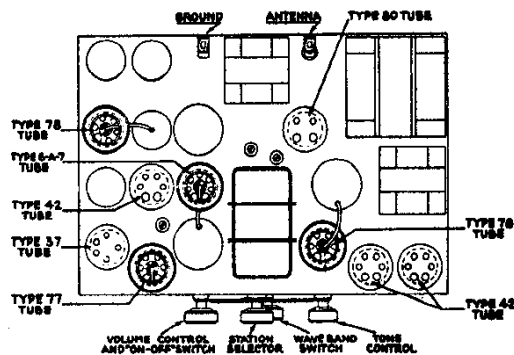

Fig. 1—Top View of Chassis
The intermediate frequency compensating condensers should be adjusted first. The intermediate frequency is 175 kilocycles. The location of these compensating condensers is: (a) 1st, I. F. PRIMARY—(28)—underneath the chassis. May be reached through hole in chassis sub-base to rear, left, of Tuning Condenser Assembly (9). See Figure 1. (b) 1st, I. F. SECONDARY—(29)—at rear of chassis, and accessible therefrom. Mounted near (28) and (30) electrolytic condensers. (c) 2nd, I. F. PRIMARY—(31)—at rear of chassis. Accessible from rear. Mounted next to (28). (d) 2nd, I. F. SECONDARY—(32)—underneath the chassis. Accessible through hole in sub-base, located between Type 42 (Driver) and Type 77 (1st, A. F.). See Figure 1.
Next, the "OSC.; H. F." (33), "DETECTOR" (34), and "ANT.; H. F." (35) compensating condensers should be adjusted in the order given. (36) and (37) are mounted upon the Tuning Condenser Assembly (9). (36) is located underneath the chassis, accessible through hole in sub-base at rear of Tuning Condenser Assembly (9),—between Tuning Condenser and Type 80 (Rectifier). See Figure 1. The signal generator is adjusted to a frequency of 1500 K. C. for (36), to 1400 K. C. for (37) and (38).